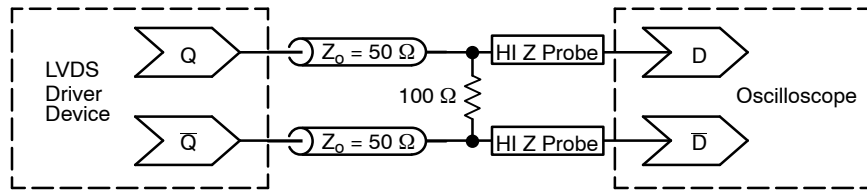

Figure 6. Typical LVDS Termination for Output Driver and Device Evaluation
7. LVDS outputs require  $100\ \Omega$  receiver termination resistor between differential pair. See Figure 6.